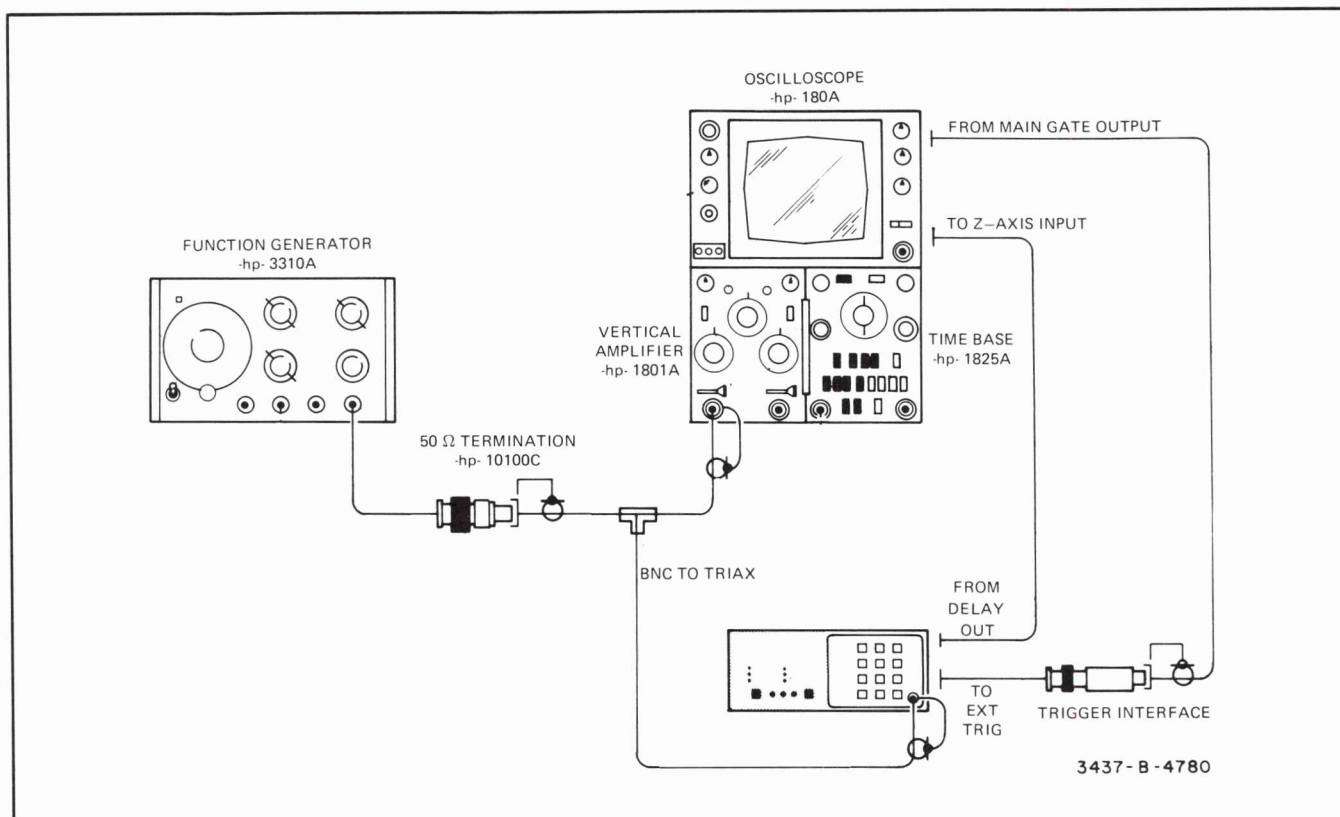

Figure 3-2. Oscilloscope Accuracy Enhancement.
a. Connect the equipment as illustrated in Figure 3-2.